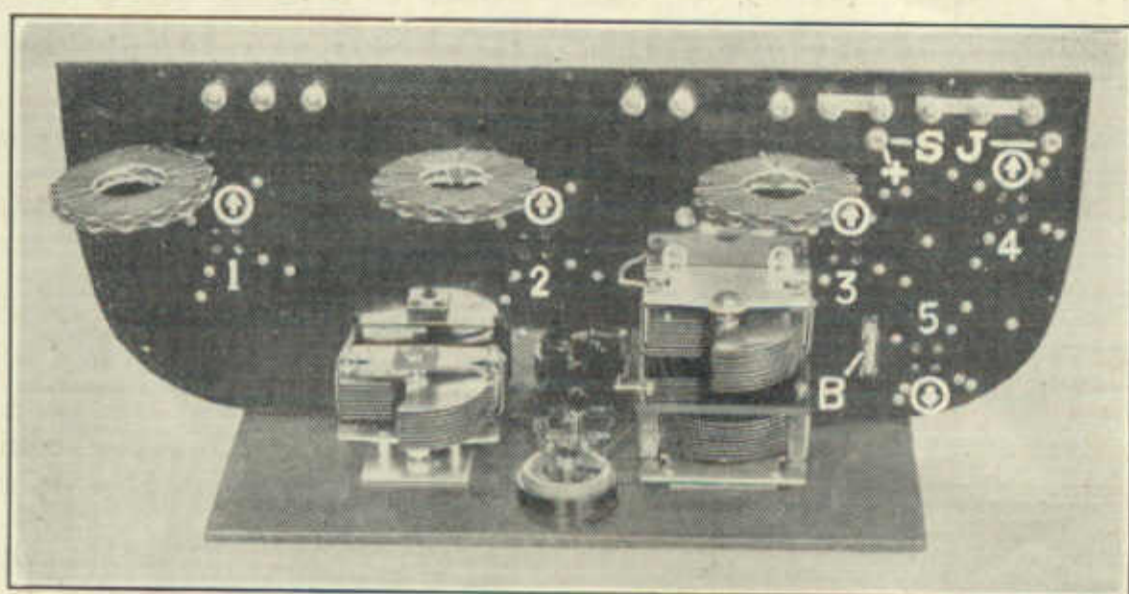
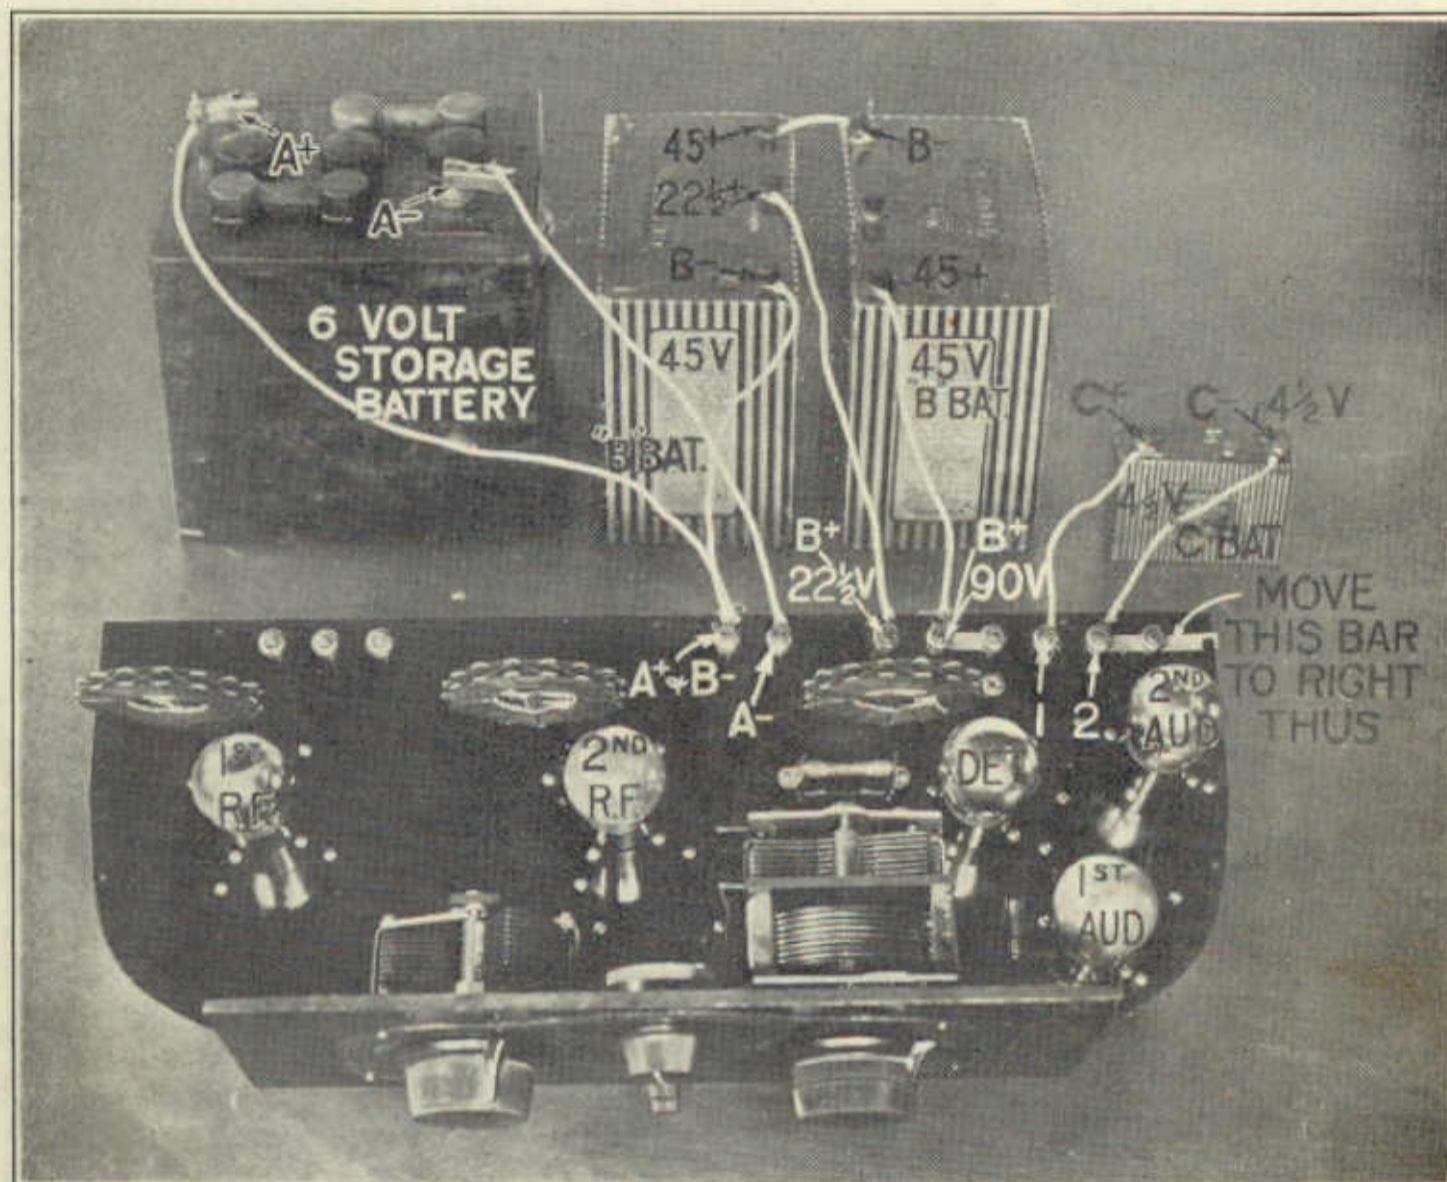
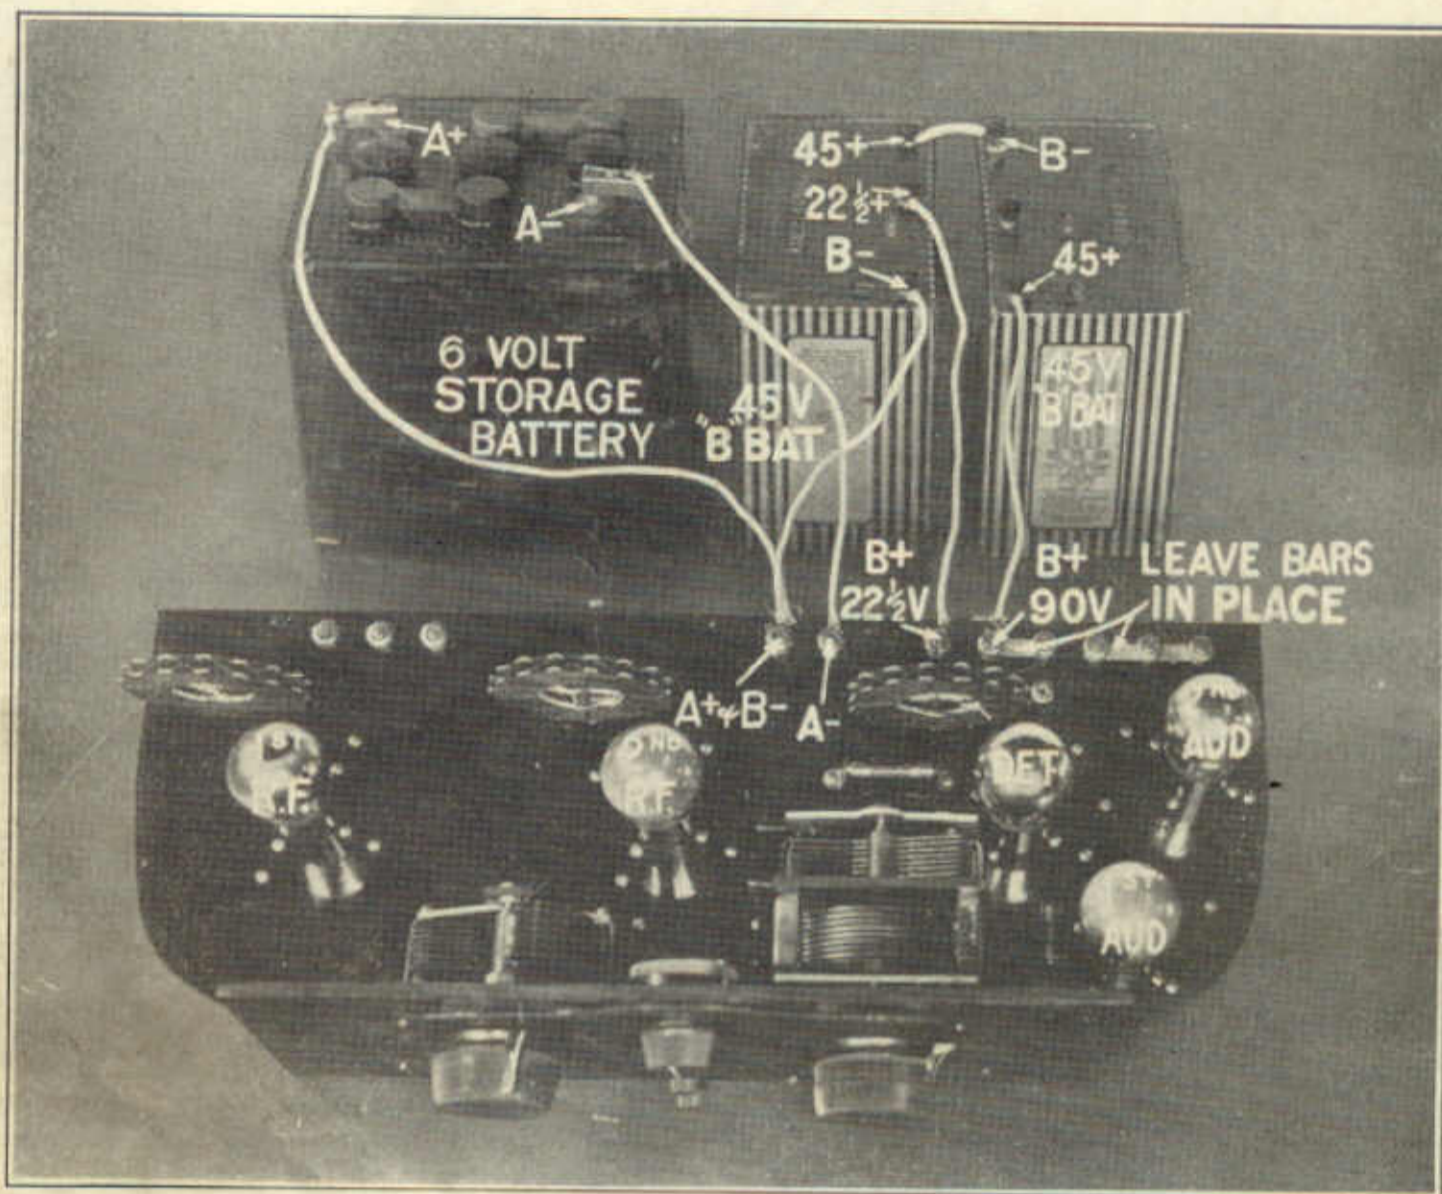

Fig. 5
Fig. 6
Fig. 7
The figured arrows in illustration, Figure 5, indicate the correct position of the small lock pins on the tube bases when the tubes are installed. Note and remember—All pins to the back except front tube (5) where pin must point to **FRONT**. If you have some of the old type of tubes with short prongs, they can be used but great care must be taken to see that they are installed in the sockets in accordance with the foregoing or they will be burned out.
The two most important tubes in the set are those used in socket No. 1 and No. 2, Figure 5. Almost any tube of the UX-201A type will give fairly satisfactory results in sockets No. 3, No. 4 and No. 5, but at least provide yourself with two tubes of the recommended brand for the first two sockets. Your possible reception will be cut down many hundreds of miles if you fail to heed these instructions. For all around use, UX-201A tubes in all sockets with the batteries connected as in Figure 6, give the best results.
The filament controls do not permit the using of any set of tubes which combined draw more than 1.5 amperes. The 201A tubes draw $\frac{1}{4}$ ampere each, so four of these can be used with one of the power tubes drawing not over $\frac{1}{2}$ ampere. This means that you can not use even one of the old UV-200A tubes which draw 1 ampere each. The use of such tubes will burn out the rheostat and resistance cartridge "B," Figure 5.
The Arborphone is very simple to hook up. The connections depend upon the types of tubes used. Be sure to refer to the correct illustration, Figure 6, 7, 8, 9. In each instance note position of keeper bars. All sets are shipped with the keeper bars in the position shown in figure 7. However, sometimes these bars are removed or lost. In such an instance a piece of bare copper wire can be used to connect the proper binding posts instead of the bar.